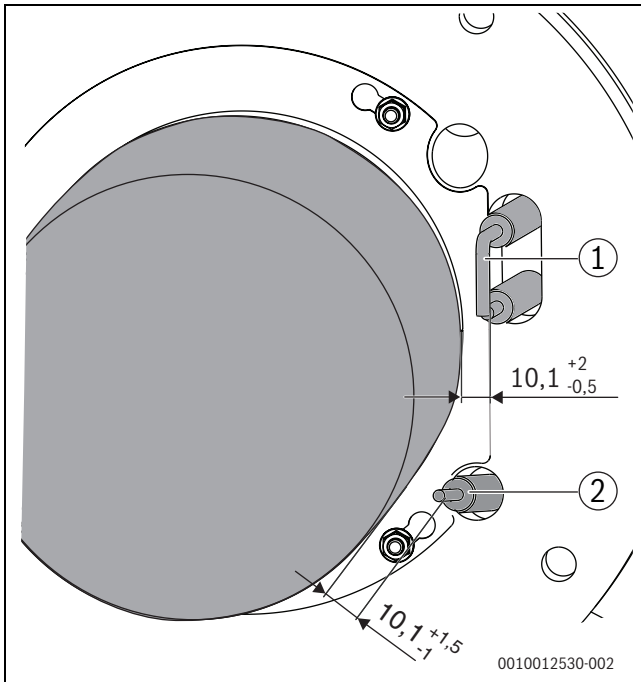

Fig. 70 Electrode position (dimension in mm)
- ▶ Check the gaps between the electrodes and compare them with those shown in Fig. 70.